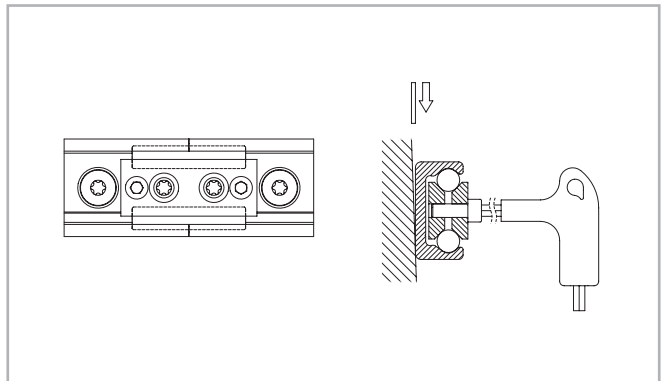

Fig. 172
- (3) Place the alignment fixture on the rail joint and tighten both set screws uniformly, until the raceways are aligned (see fig. 172).
- (4) After the previous step (3) it must be checked if both rail backs lie evenly on the mounting surface. If a gap has formed there, this must be shimmed.